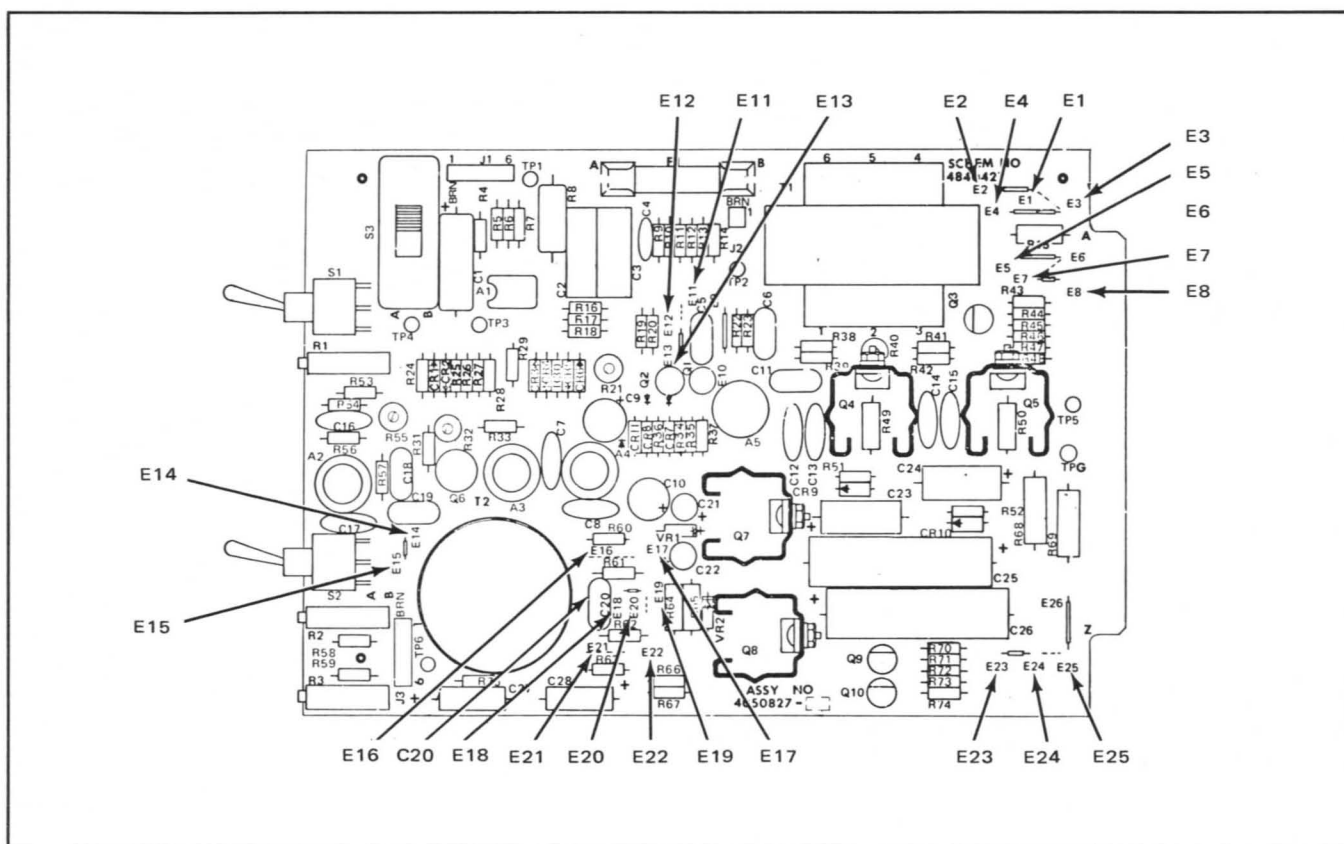

Figure 5-7. Input/Output Assembly Module – Jumper Terminals and Capacitor C20
The input/output assembly operating characteristics can be changed by adding a capacitor and by adding or removing jumpers from terminals located on the input/output assembly module (Figure 5-7). Separate modification instructions are given for the input and output amplifier sections of the module.
3. Install capacitor C20 (47 pF, 5%, mica – customer furnished) on the input/output module PWA, and solder in place. Install the capacitor in circuit pad location designated on the module PWA. (See note 6 on input/output module PWA schematic no. 4840421, and Figure 5-7.)